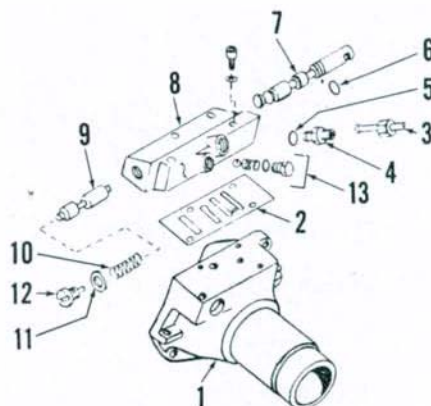

Fig. 145—Exploded view of Multi-Power shift control valve and associated parts.
Use a new gasket (2—Fig. 145) when reinstalling valve. Make sure the long cap screw with copper sealing washer is installed in the correct hole and tighten all screws evenly to a torque of 4.1-5.4 N·m (36-48 in.-lbs.). Tighten the four screws that attach housing (1) to transmission to 54-61 N·m (40-45 ft.-lbs.) torque.
148. **OVERHAUL.** To overhaul the removed "Multi-Power" control valve, refer to Fig. 145 and proceed as follows: